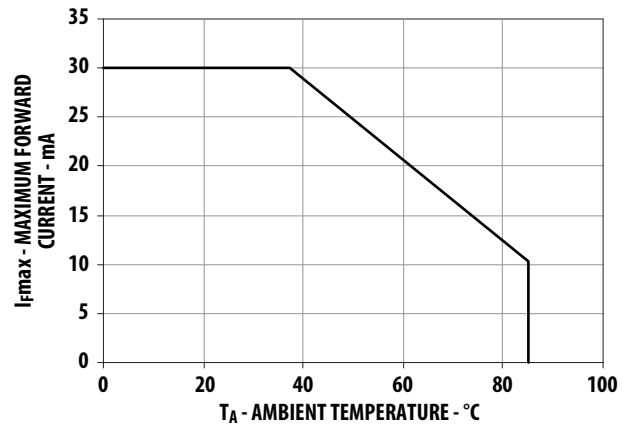

Figure 4. Maximum Forward Current vs Ambient Temperature
- Derate linearly as shown in figure 4.